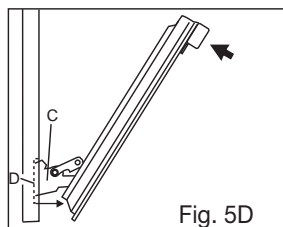

Fig. 5D
- 4 Using both hands, push the oven door lightly inwards, to enable the door hinges "C" to come away from the slots "D" (see fig. 5D) and pull the door towards you until it is released from the oven.